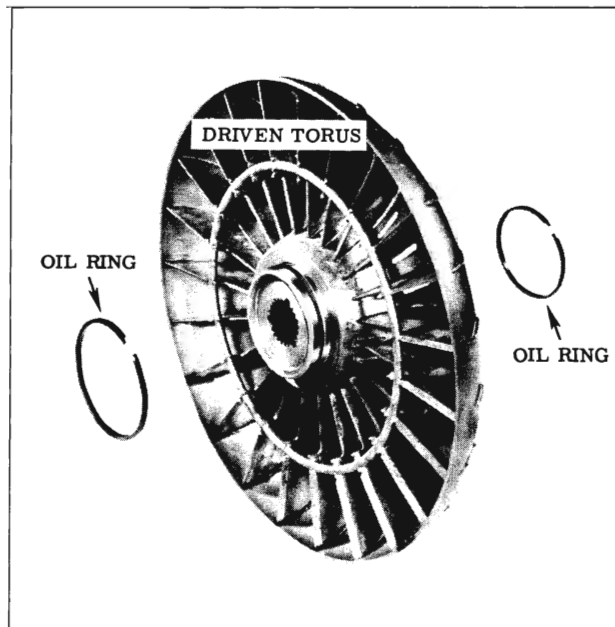

Fig. 3-111 Driven Torus
3. Install lock type oil ring on front and rear hubs of driven torus member, if removed. (Fig. 3-111)